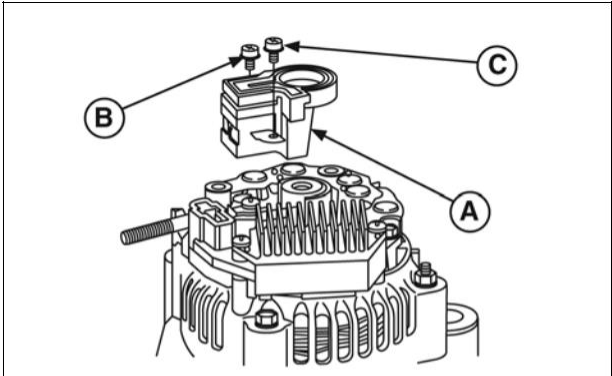

Figure 22
- 5. Remove three screws and regulator (A, Figure 22).